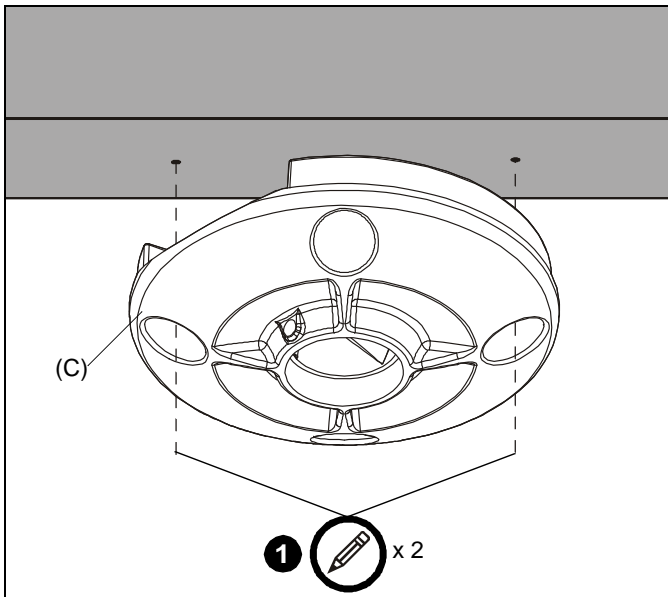

Figure 1
- Using ceiling plate (C) as a template, mark locations of two pilot holes (See Figure 1). Ensure the following:
- Use *OPPOSITE* holes in plate (C), and